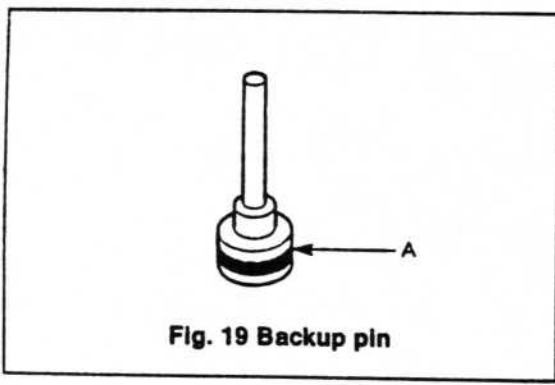

Fig. 19 Backup pin
5. Coat the rounded section A of the backup pin shown in Fig. 19 with grease. (Use lithium based grease.)